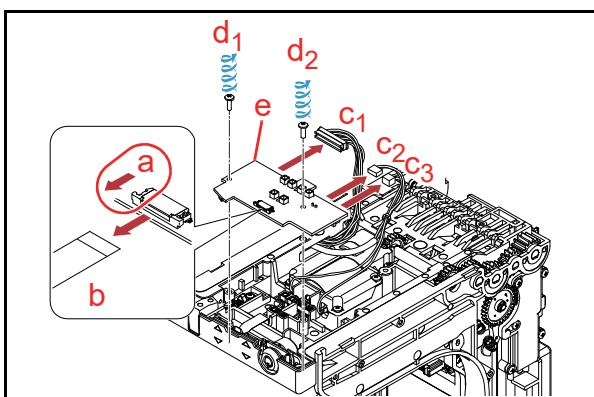

**Figure 4-17** Flap Home Board Removal
4. Unplug the single (1) Connector (Figure 4-17 a).
5. Remove the single (1) Screw (Figure 4-17 **b**).
6. Remove the Flap Home Board (Figure 4-17 **c**).